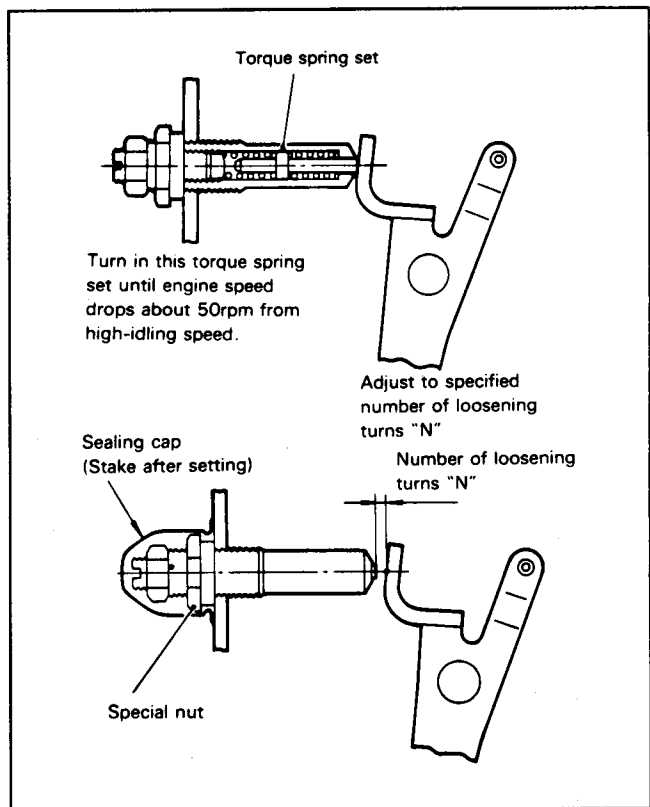

Figure 53
3. Turn the torque spring set (Fig. 53) clockwise until engine speed drops approximately 50 rpm from high idle speed.